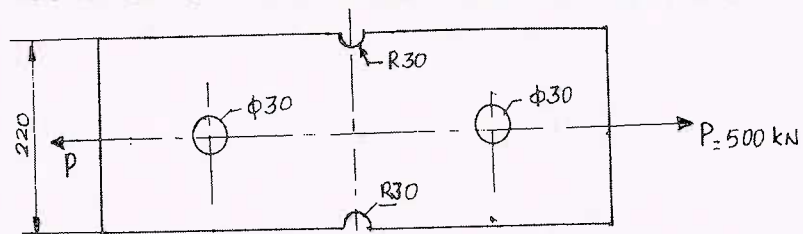

Fig. Q2(b)
b. A machine element loaded as shown in Fig.Q2(b). Determine the safe value of thickness of the plate. Material selected for the machine element has an allowable stress of 200 MPa.